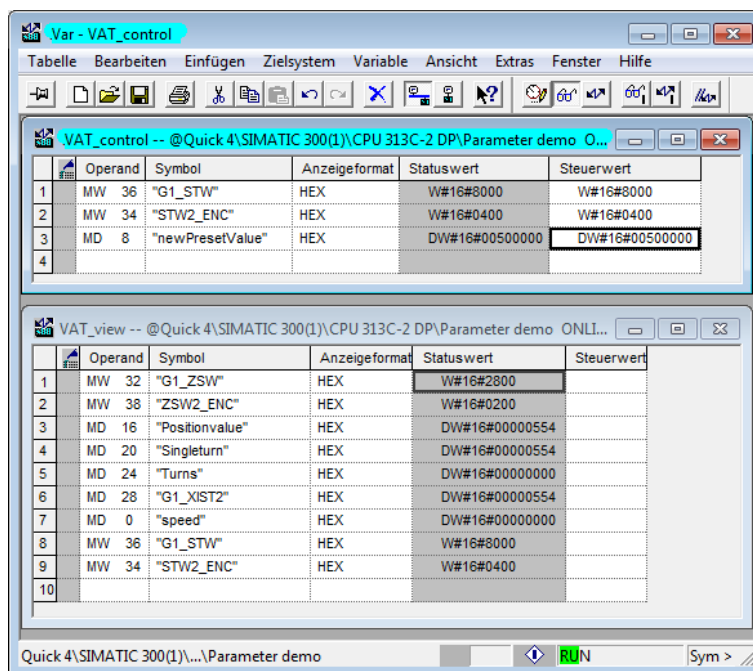

Figure 7.5: Variables table "VAT\_View" – error in G1\_XIST2 acknowledged
- Set the control value from "G1\_STW" to the hex value: 8000 (see Figure 7.5). Repeat this process until all errors have been acknowledged.